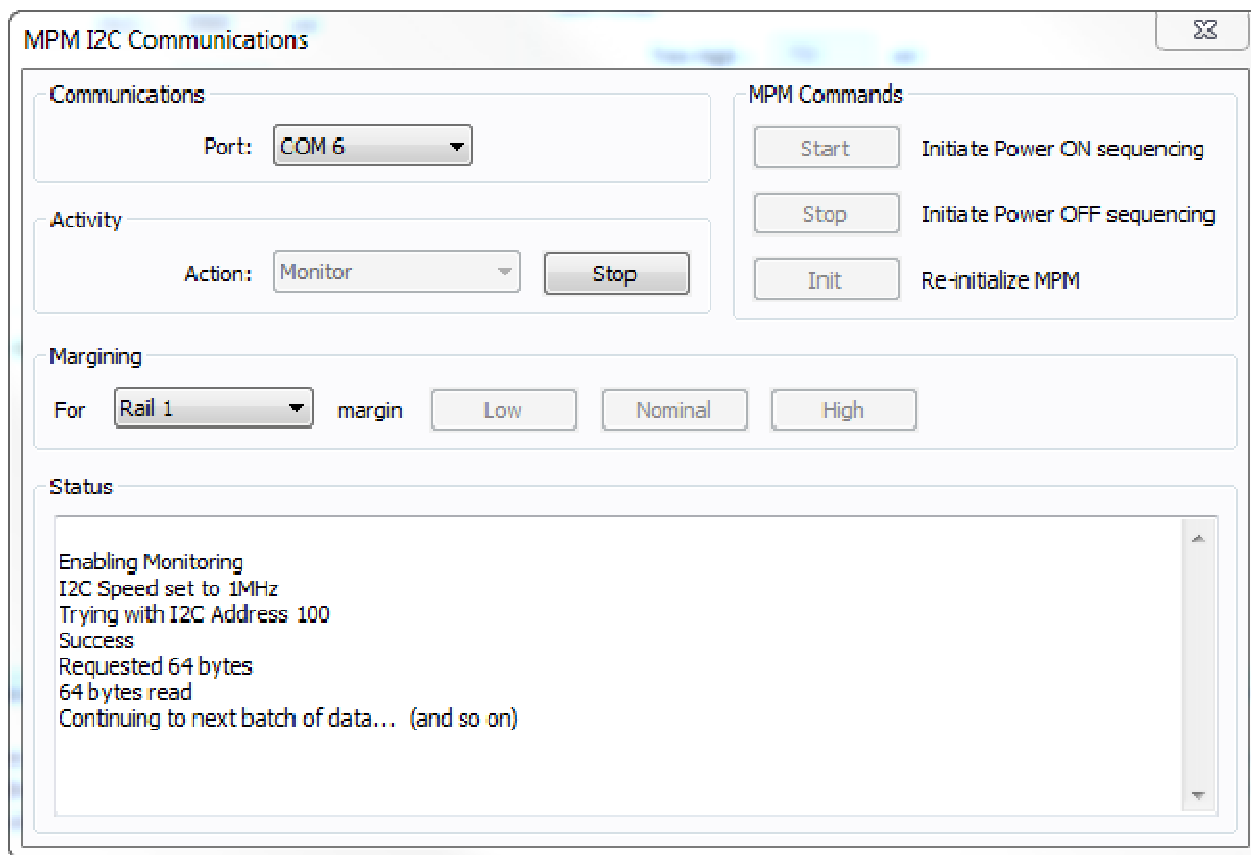

Figure 17 · Test Status
16. Select **Monitor** from the **Activity** > **Action** drop-down list and click the **Go** button. If the test is successful, the **Status** text box will look similar to Figure 17 on page 18.